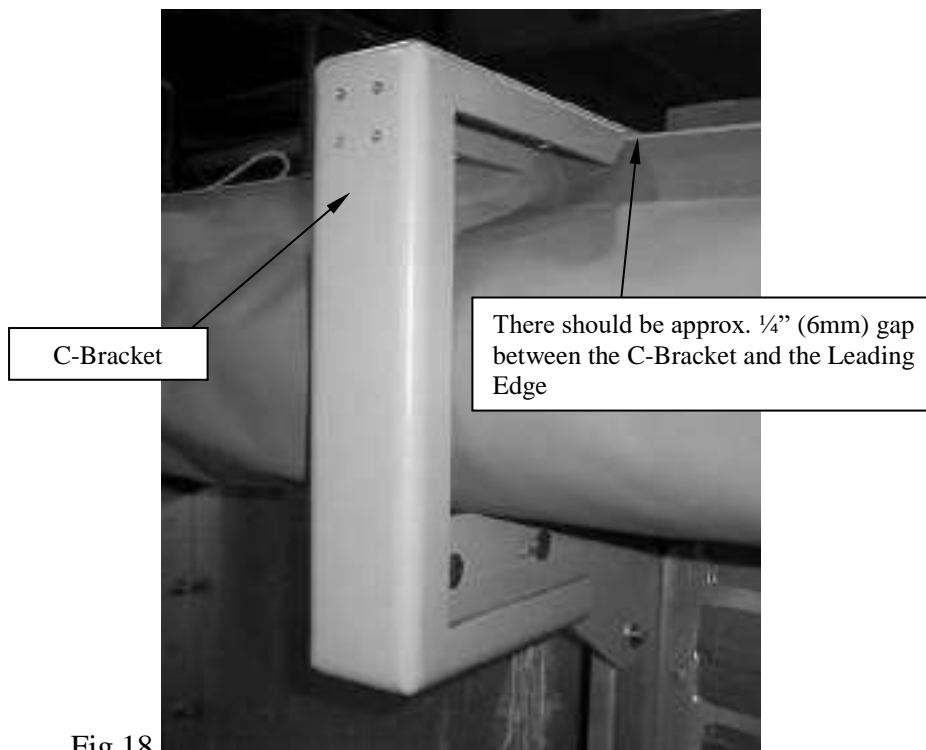

Fig 18
- 5. Bolt the C-bracket to the flat bracket. Make sure that there is a 1/4" (6mm) gap between the leading edge and top of the C-bracket. **Do not tighten bolts at this time.** (Fig 18)